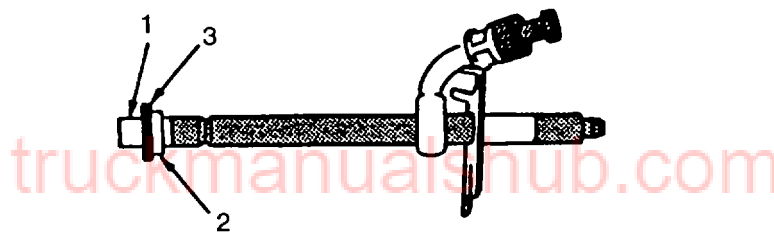

FIGURE 3-113. Fuel Injection Nozzle Seals
- Position protector cap (1, FIGURE 3-113) over nozzle tip. A nozzle protector cap can be found on every new or replacement nozzle.
- Position a new carbon stop seal (2) on protector cap. Use a new seal washer (3) to help slide the carbon seal (2) into place until it seats in its groove on nozzle body.
- Continue to slide seal washer (3) onto nozzle body until it seats against inlet fitting.